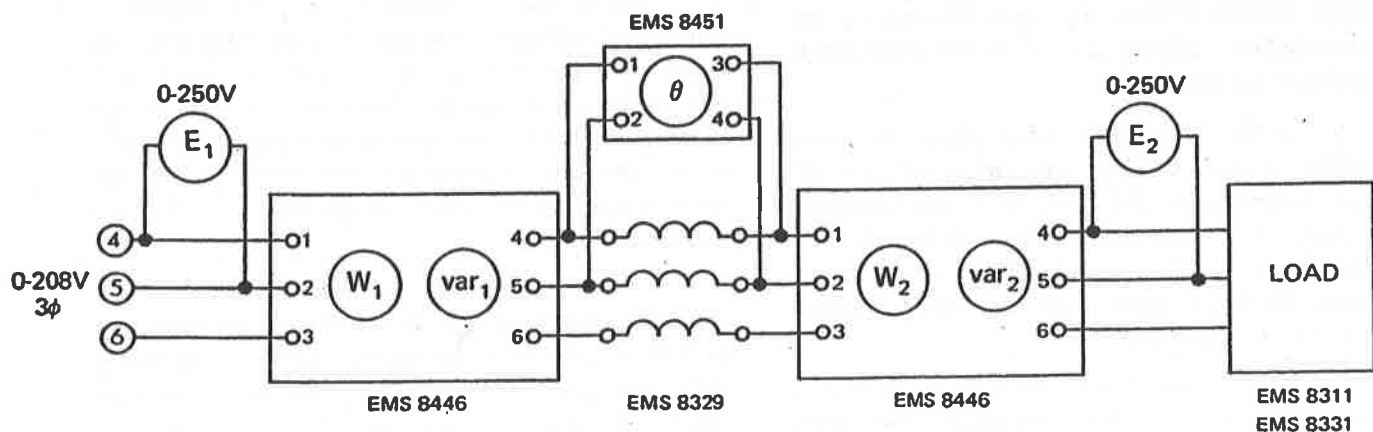

Fig. 5-1
□ 5-1) Set the impedance of the transmission line to 120 ohms and connect voltmeters and watt-varmeters as shown in Fig. 5-1. The load will be modified during the course of the experiment. The circuit should be connected to the three-phase variable voltage supply.